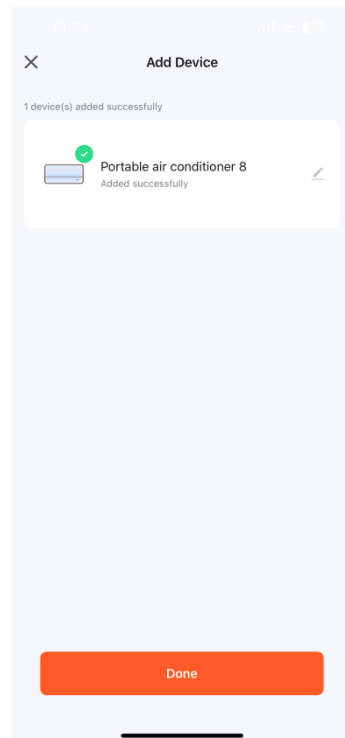

Fig.8
3.8. Now you can operate your device in the control interface. Tap buttons to set your appliance. (Fig.8)